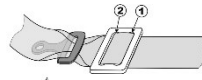

Figure 10
Three-bar adjusters may be used for wrap mounting shoulder belts around harness bars or leg straps around mounting bars. The adjusters can also be used to secure webbing wrapped through attachment hardware. When three-bar adjusters are used, they must be placed as close to the mounting points as possible. Figures 10 through 14 have the proper wrapping techniques detailed in them:
1. Slide the webbing through slots 1 and 2 as shown in Figure 10.